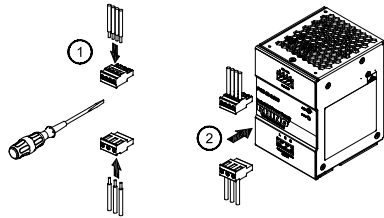

Figure 4
Caution: "Must tighten wire to Terminal Block (Fig. 4 (1)) before plugging into the terminal block connection (Fig. 4 (2))".